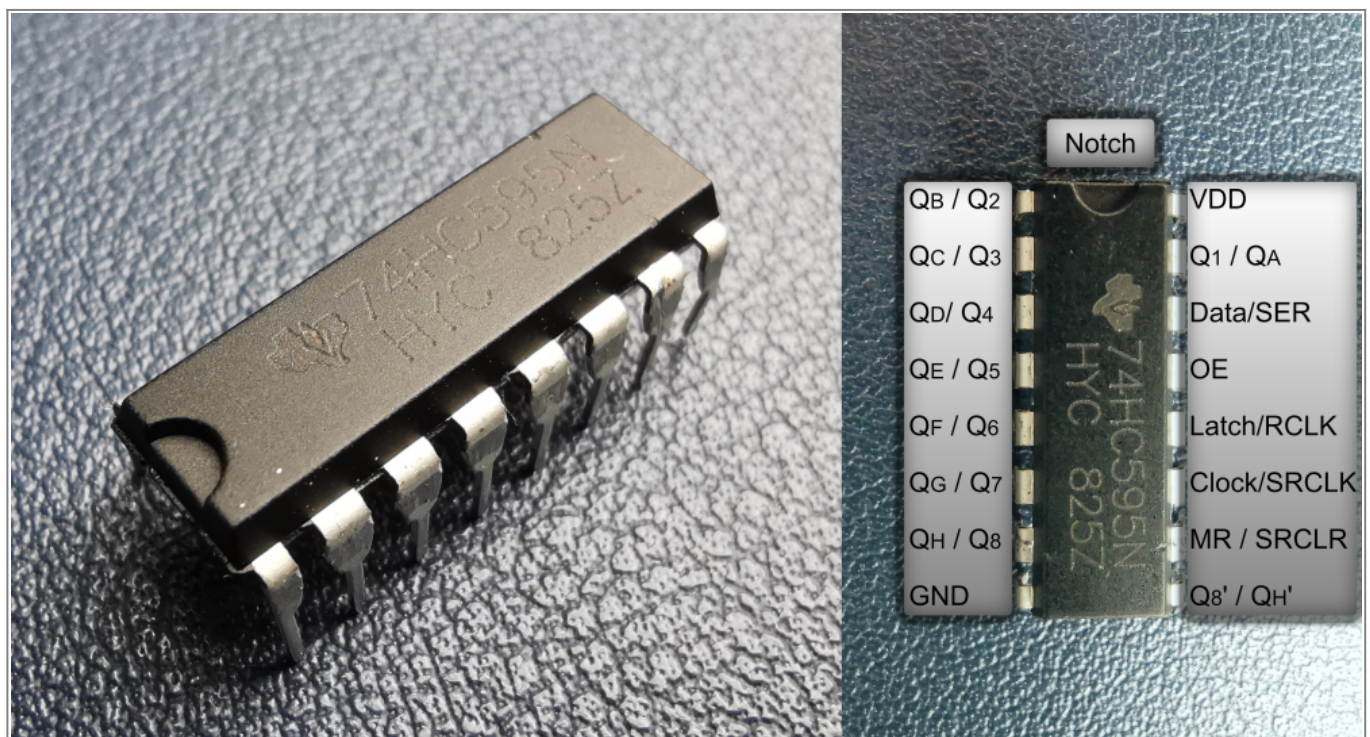

Figure 1 SN74HC595(N) Shift Register and pinout.
Another method is to use a shift register, such as the SN74HC595 (figure 1). That is a small integrated circuit (IC) which transforms a digital serial input into a digital parallel output. The SN74HC595 contains a shift register and a storage register of the size of 1 byte and possesses 8 parallel output pins. To operate the device 3 GPIO pins of the MCU are needed, one pin for transmitting the data (data, DS, SER), one pin for the clock signal of the shift register (clock, SHCP, SRCLK) and another one as clock signal for the storage register (latch, STCP, RCLK). The advantage of the shift register is that with only 3 GPIO pins, 8 output pins can be controlled at the same time individually. Furthermore, the IC has another output for serial data which can be connected to the serial input (data pin) of another shift register. This allows for the cascading, that means connecting many ICs in series, of the SN74HC595; so, with only 3 pins a large number of outputs can be managed.